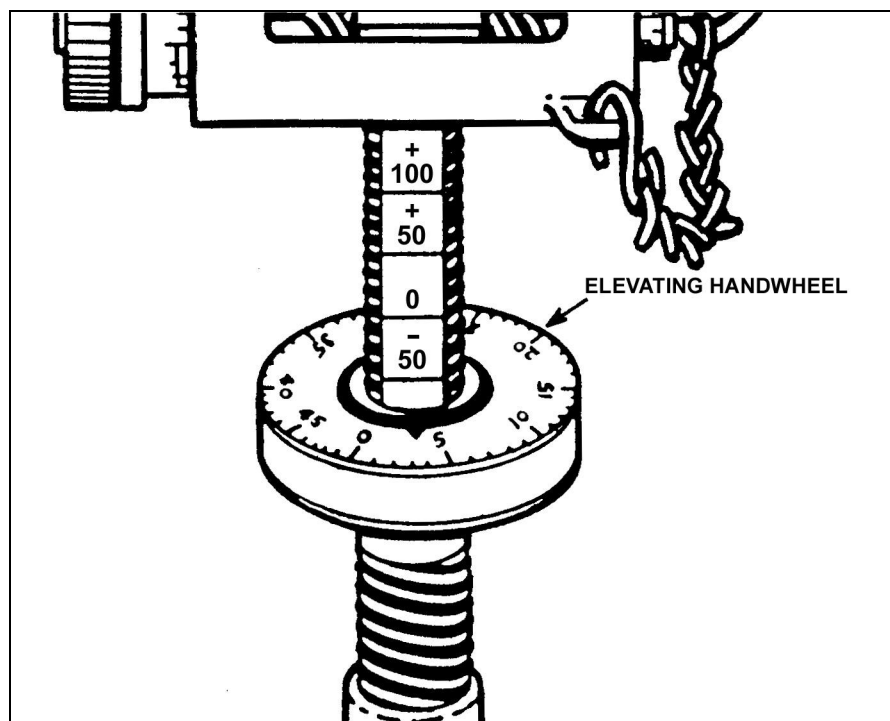

Figure 4-12. Elevating handwheel.
(2) Once the soldier knows the basics of sighting and aiming, and can assume a good firing position, give him the second manipulation exercise. Show him how to manipulate the weapon to get a correct initial lay and how to skillfully shift the direction of the weapon to successive points. Ensure the soldier understands and knows how to perform the following instructions:
- (c) Manipulate for elevation by rotating the elevating handwheel with the left hand (Figure 4-12).